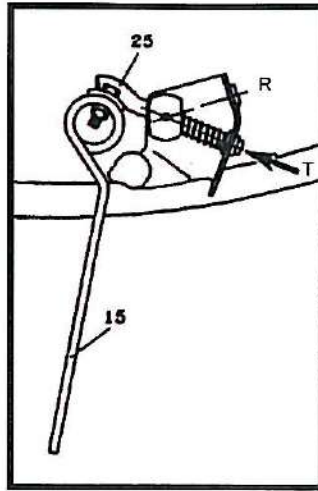

Fig. 14. Setting the teeth for tedding.
- Set all teeth in tedding position T (Fig. 14.)
- raking teeth 15 (Fig. 14. and 16.) to tooth holders